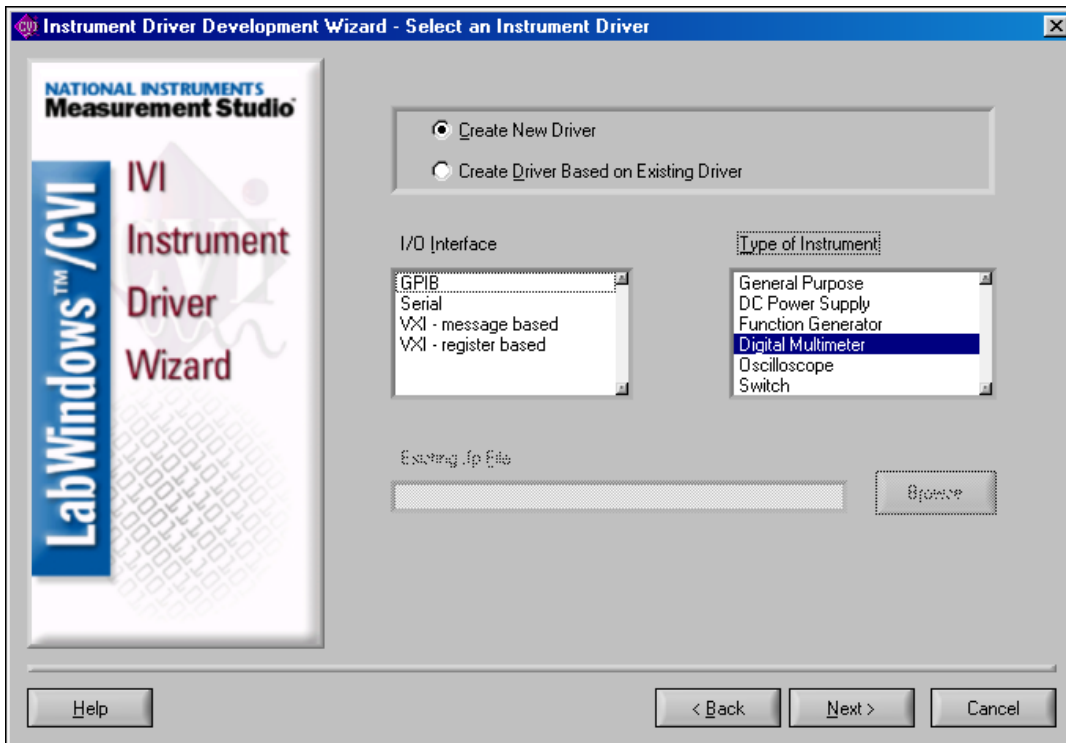

Figure 5-1. Select an Instrument Driver Panel
2. Click **Next** on the welcome panel to begin. The Select an Instrument Driver panel appears as shown in Figure 5-1.